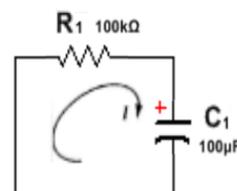

Figure 3.3. Discharging Capacitors
2. Using the current circuit, charge the capacitor to exactly **10.0 volts** and then disconnect it from the circuit by removing the **RED** wire between **Spring #44** and **T11**. Leave the meter and all other components and wires connected. Watch the capacitor voltage on the meter as it drops, very slowly, due to the meter’s *one megohm* internal resistance. It could take 10 minutes to go to zero volts. Instead, we will wait until the voltage across the capacitor is **3.7 volts**. This is the value for Tau for the circuit from which we *could* calculate the meter’s actual internal equivalent resistance. *If you do not reach 3.7 volts after about 2 minutes of discharging there is an error.* This RC circuit is shown as Figure 3.3.